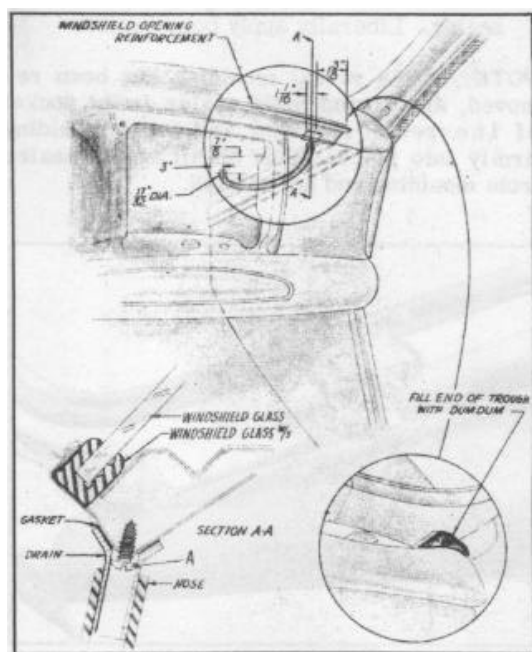

FIGURE 40
1. Cement drain tube gasket securely to the inside "V" surface of the drain tube, Figure 40. Spread a thin layer of trim sealer
4. Carefully punch two holes through the windshield reinforcement for the attaching Phillips screws (A), (No. 10 x 5/8" Binding Head) using a punch guided by the screw holes in the drain tube. This punch should be 1/8" in diameter at the pin end, ground to a point as shown in Figure 40, and have a length of 9" in order to project under the instrument panel.
5. Secure drain tube in place with self-tapping screws (A), Figure 40, and remove jack.
7. Punch 11/32" hole through cowl side panel at point shown in Figure 40, for lower end of drain hose. Enlarge hole and insert hose so that it extends outside of the cowl side panel.